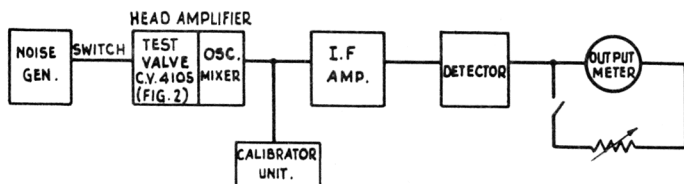

FIG.1 NOISE FACTOR SCHEMATIC DIAGRAM.
8. To be measured in an approved circuit. (See Figs.1 & 2 on page 5). See Specn. CV2453.